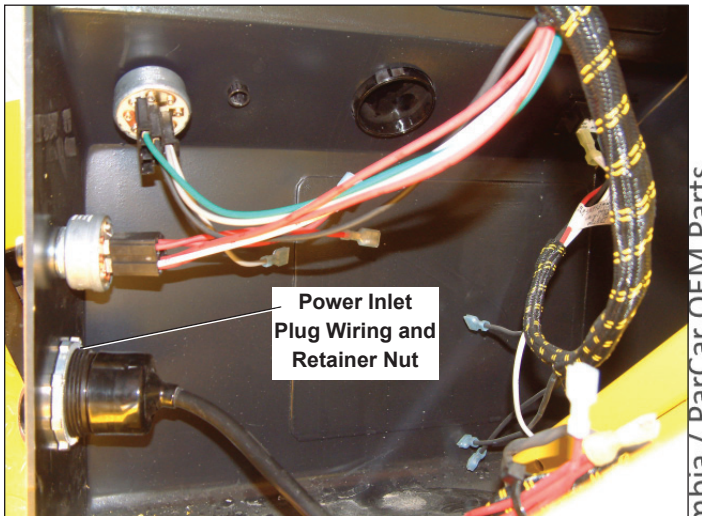

Figure 8-14. Power Inlet Plug Wiring
3. Position new power inlet plug into console and secure with retainer nut (Figure 8-14).